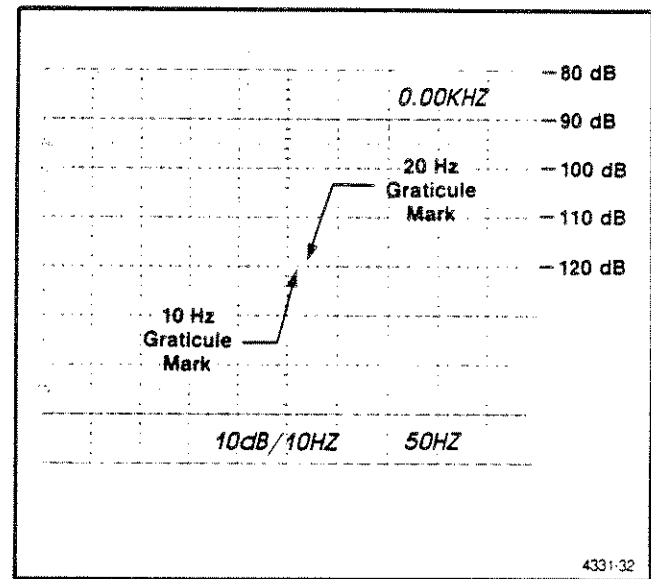

Fig. 5-4. 10 Hz null adjustment.
Adjust the 7L5 manual sweep dial to position the dot horizontally in line with the 10 Hz graticule mark (see Fig. 5-4).
b. Set the calibration fixture Mode to Notch (in) position and the Atten to 0 dB (out). Adjust the SG 5010 FREQ and the calibration fixture Adj for Null controls to position the dot vertical to the most stable point below the -80 dB level on the display. (See Fig. 5-4.)
n. Note the 2nd, 3rd, 4th, and 5th harmonics on the waveform, or as many of these harmonics as are visible. See Fig. 5-4 and compute the thd using the formula in step 13-e.